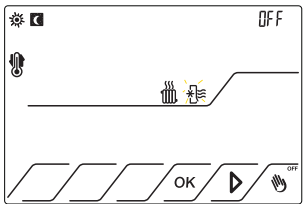

Fig.7
3.2.3 Press ► up to position on  that it will start to flash and OFF appears. Fig.7